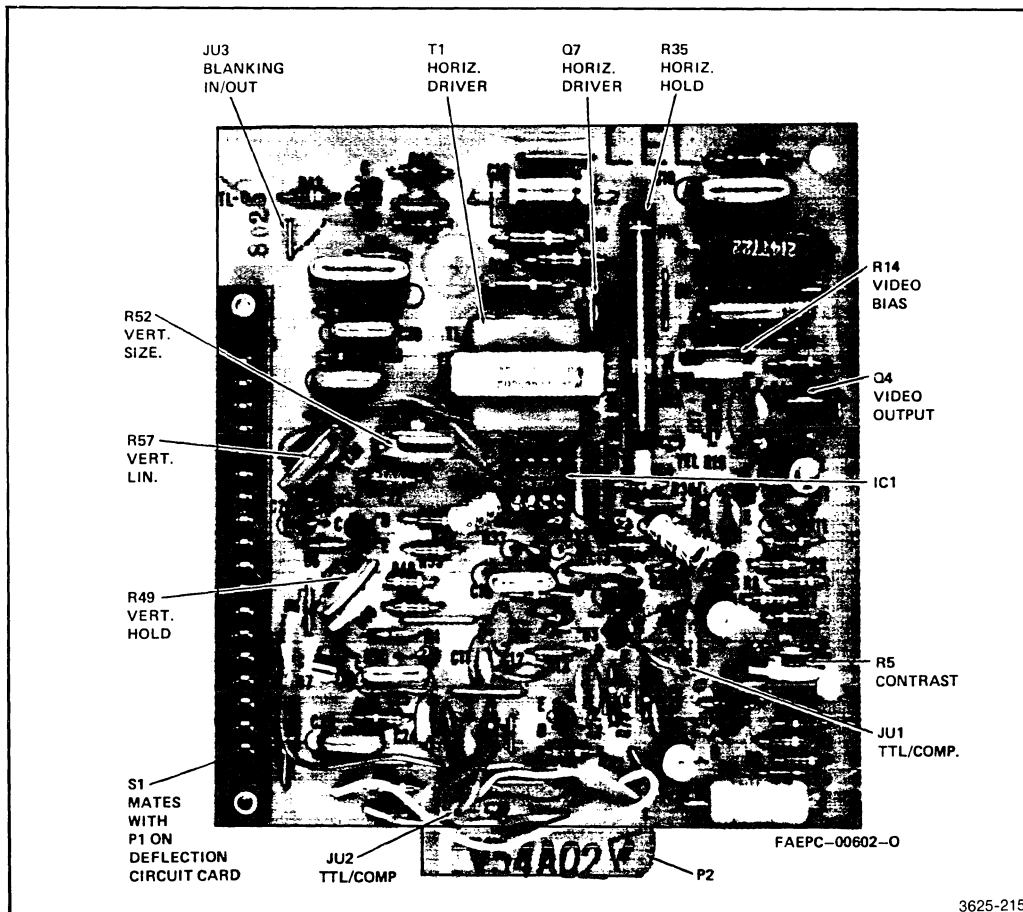

Figure 5-44. Motorola Display Monitor signal circuit board (A4A2) test point and adjustment locations.
There are five separate adjustments to be made in the Motorola Display Monitor. The procedures to perform each of these adjustments are listed separately, below. The following procedures assume that the monitor has been removed from the mainframe and reconnected and that the protective covers have been removed as indicated previously. The locations of the monitor adjustments are shown in Figures 5-44 and 5-45.
2. Locate the Focus control, R61 (see Figures 5-44 and 5-45), in the display monitor. Adjust the Focus control for the most legible screen display.
2. Locate the Horiz Hold control, R35 (see Figures 5-44 and 5-45), in the display monitor.
3. Locate the Contrast control, R6 (see Figures 5-44 and 5-45), in the display monitor. Rotate this control for minimum brightness.
6. Adjust the Video Bias control, R14 (see Figures 5-44 and 5-45), so the voltage across R18 is $+2.0\text{ V}$, $\pm 0.05\text{ V}$.
9. Adjust the Brightness control, R63 (see Figures 5-44 and 5-45), so the entire screen on the CRT is slightly illuminated. Then reduce the brightness just until the screen is black except where there are characters. Further adjustments in contrast should be made from the Controller module.
2. Locate the S-shaping transformer, T3 (see Figures 5-44 and 5-45), in the display monitor. Rotate the transformer's slug down to the bottom. (This temporarily minimizes the effect of T3 in the circuit.)
3. Adjust R52 (vertical size) and L1 (horizontal width) so all edges of the raster are visible. (Refer to Figures 5-44 and 5-45 for the location of these adjustments.)